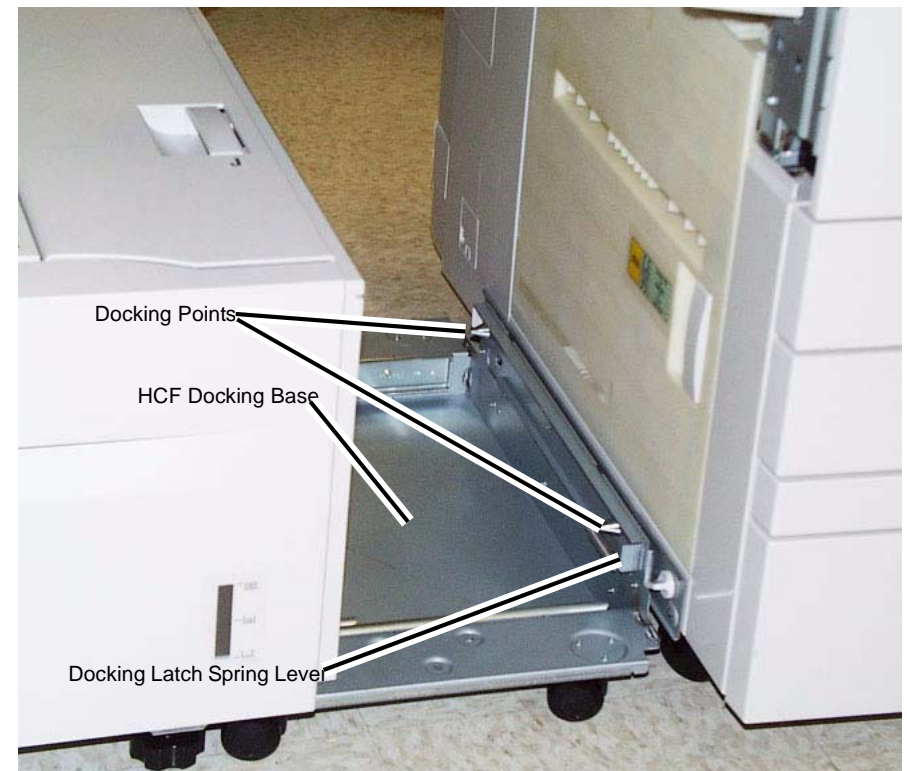

Figure 1 Exposing the docking base
- Grasping the HCF by its upper corners, pull the HCF away from the copier/printer to expose the HCF Docking Base (Figure 1).